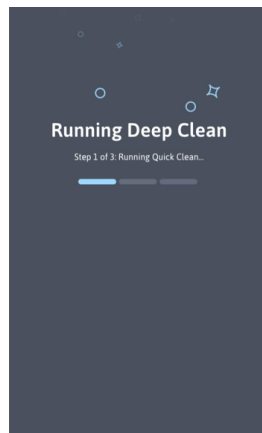

Figure 40
3. The analyzer will run 2 wash cycles, then automatically perform the Deep Clean (3 minutes) and conclude by automatically running 2 additional wash cycles (Figure 40). During the 3 minute Deep Clean, the device will appear to be idle, while the fluidic system soaks in hypochlorite.